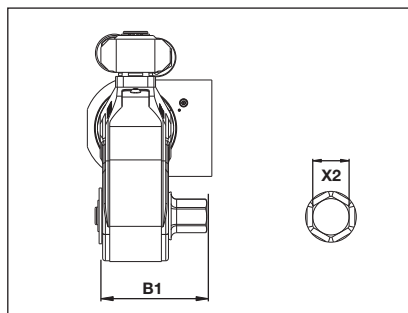

Fig. 34
6.8 Dimensions and Specifications, Metric SDA Series Allen Key Drives (Fig. 34)
6.9 Dimensions and Specifications, Imperial SDA Series Allen Key Drives (Fig. 34)